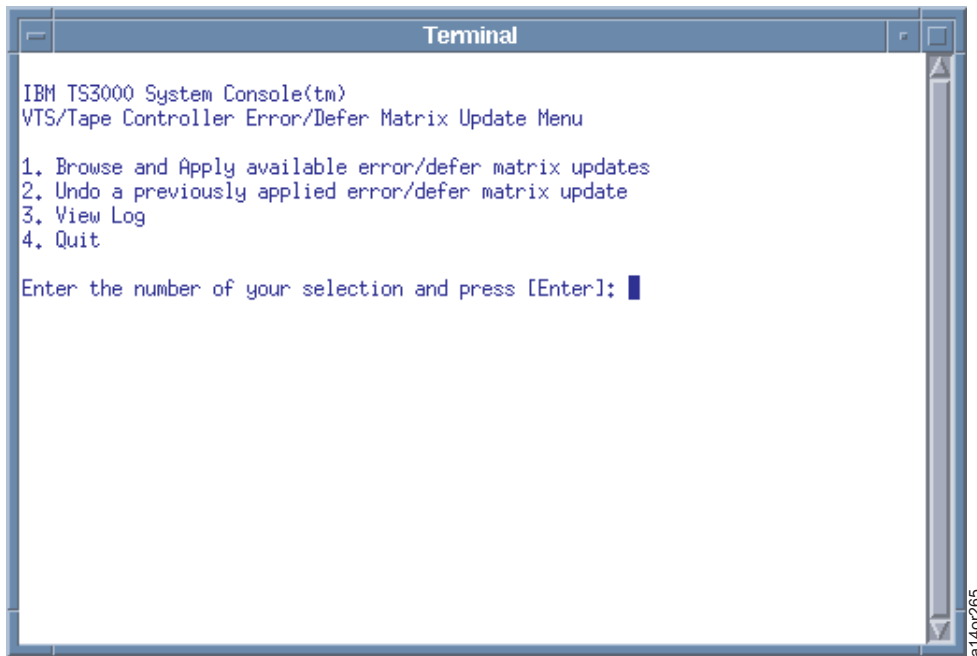

Figure 237. VTS, VTC, or Tape Controller Error or Defer Matrix Update Menu
2. Select **System Console Actions > Error/Defer Matrix Updates** to start the Error and Defer Matrix updates tool. The dialog window in Figure 237 displays. This tool enables copying error/defer matrix updates at the system console to attached VTS, VTC, or tape controller systems over the local network.